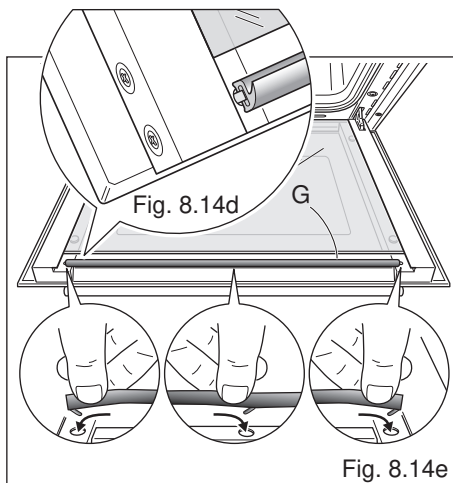

Fig. 8.14e
- Reassemble the seal “G” in the correct way (fig. 8.14d) by hooking the no. 3 fixing hooks in the proper holes (fig. 8.14e).